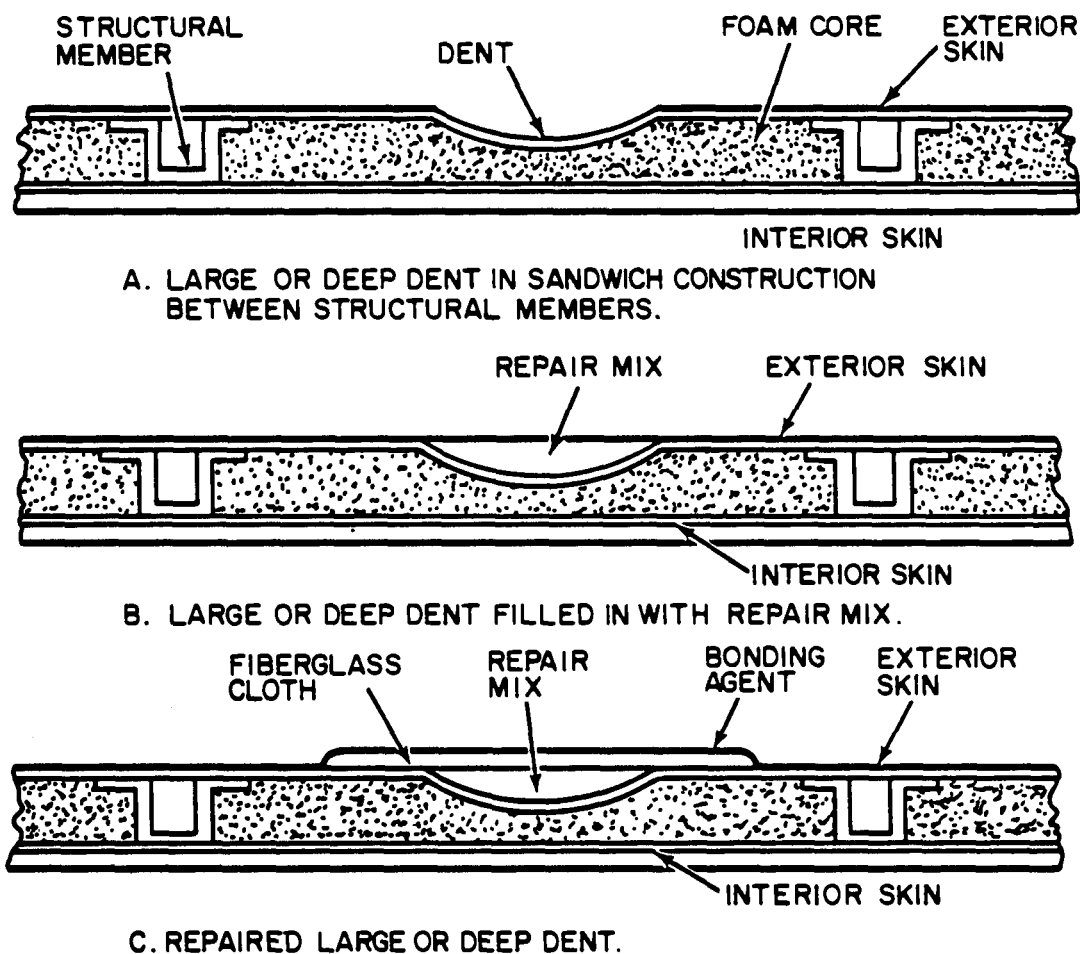

Figure 4-3. Shelter Wall Repair of Large Dent.
#### Repair. (Figure 4-3)
- (1) Perform the procedures contained in paragraph 4-8, steps (1), (2), and (3) using Figure 4-3, A and B.
- (2) Cut a piece of fiberglass cloth that will cover the restored area and extend approximately two inches around the filled-in dent.
- (3) Apply a liberal coating of mixed adhesive (paragraph 4-7.b.(4)) over the filled-in dent extending approximately two inches around the dent.
- (4) Place the fiberglass cloth (C, Figure 4-3) over the coating of mixed adhesive and press lightly.